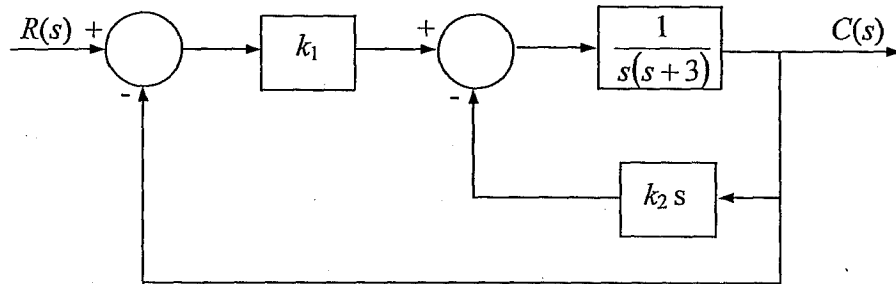

Fig. Q5
- Fig. Q5 shows the block diagram of a position control system with velocity feedback. The transient response of the closed loop system has a damping ratio of 0.6, and a frequency of damped oscillation of 4 rad/s.